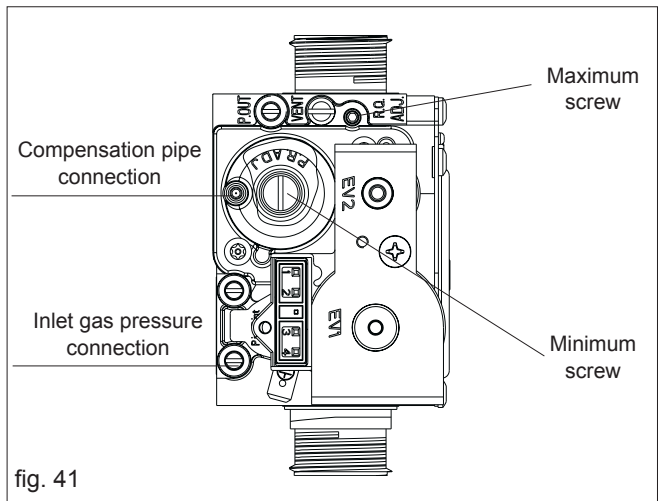

fig. 41
- using a 2.5mm Allen key, very slowly turn the maximum adjustment screw (see fig. 41) – clockwise to decrease, counter clockwise to increase – until the correct value is displayed on the CO2 analyser (allow time for the analyser to stabilise).
- locate the minimum adjustment screw (fig. 41), using a suitable screwdriver remove the protection plug
- using a 4mm Allen key, very slowly turn the minimum adjustment screw (see fig. 41) - clockwise to increase, counter clockwise to decrease - until the correct value is displayed on the CO2 analyser (allow time for the analyser to stabilise).